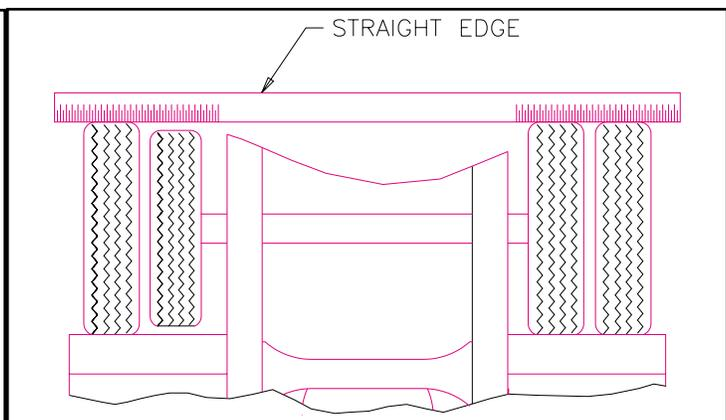

Fig. 4-18 Straight Edge Method
b. Straight Edge or String Method: (This method can not be used if tire and wheel assemblies are not mounted on the axle.) Jack semitrailer up until the wheels are off of the ground. Hold a straight edge against the tires of both ends of an axle. A gap at one tire indicates a smaller tire. A maximum of $1/8$ " gap is allowed (**See Figure 4-18**).